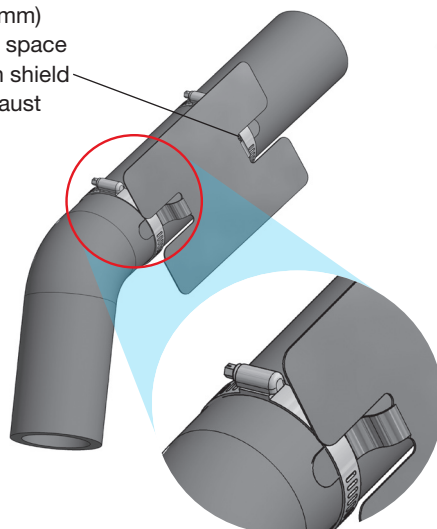

fig. D.4
1. Attach the metal heat shield to the exhaust where it is closest to the passenger's (right) side air spring. Slide the air line thermal sleeve over the air line and position it where the air line is closest to the exhaust. (Fig. D.4).